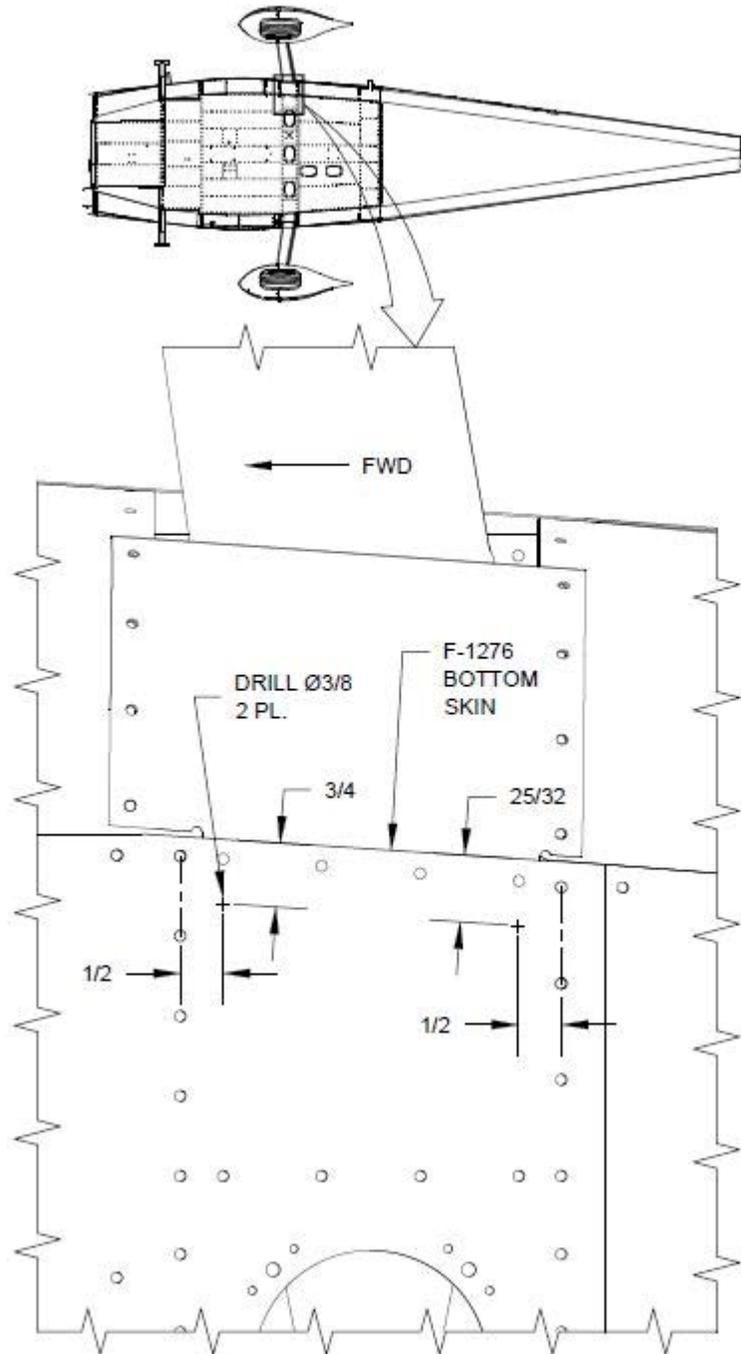

FIGURE 2: DRIFT AND SOCKET ACCESS HOLES (BOTTOM VIEW - LEFT SIDE)
Step 12: Use a Step-Drill (Uni-bit™) to drill 3/8 dia. [9.5mm] holes in the F-1276 Bottom Skin to allow for insertion of a drift (for seating the bolt hardware) or a socket extension before the socket itself is attached.. See Figure 2. This will permit torque to be applied to the head of the U-1202 attach bolts.